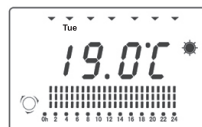

Fig. 2
2. Press the Mode button once until the display shows the ‘Makings personal settings for each day of the week’ mode. (fig.2)